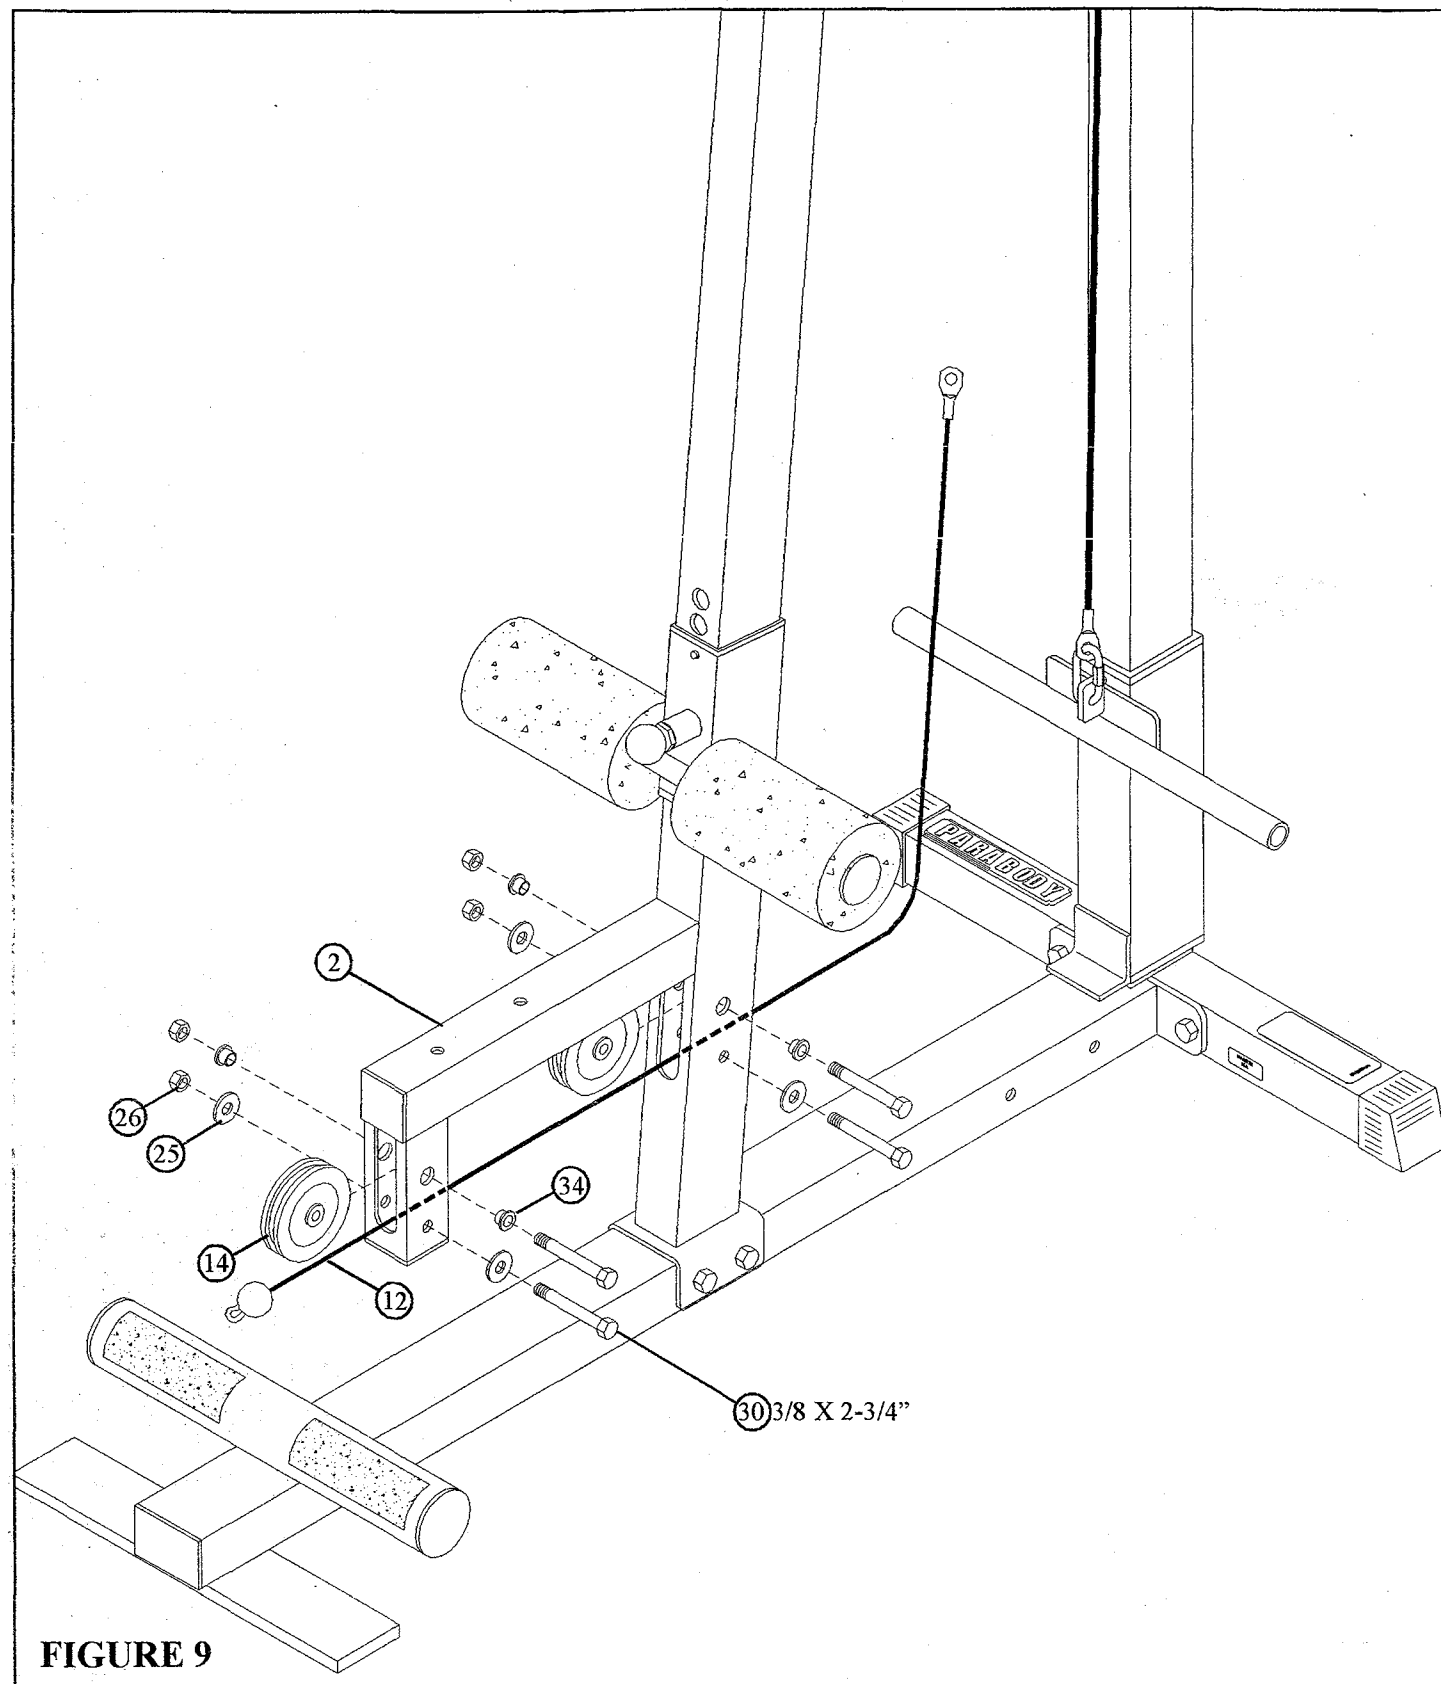

**FIGURE 10**
- Loop the CABLE (12) over one 4-1/2" PULLEY (15) as shown in FIGURE 10.
- **SECURELY** the 4-1/2" PULLEY (15) to the 1/4 X 2 X 7-1/4" PLATES (9) using one 3/8 X 2-1/4" BOLT (29), two 3/8" WASHERS (25), and one 3/8" LOCK NUT (26). See FIGURE 10.
- Attach the CABLE (12) to the BASE (1) using one 3/8 X 4" BOLT (31), **three** 3/8" WASHERS (25), and one 3/8" LOCK NUT (26). See FIGURE 10.